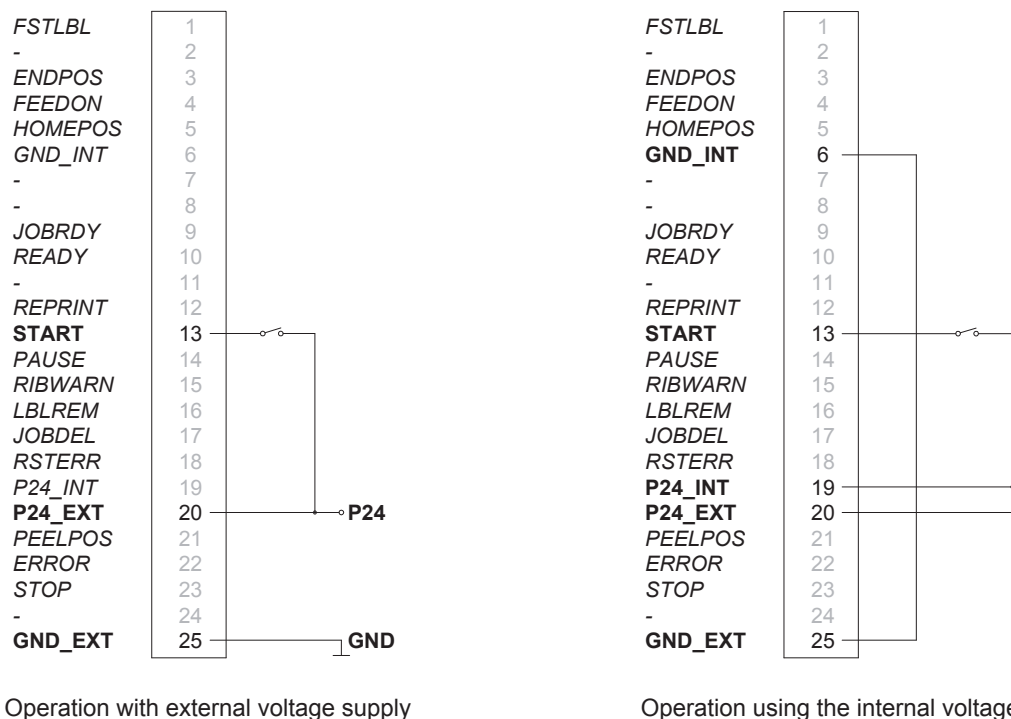

Figure 27 External circuit for peeling-off on demand with Present Sensor PS800 (Brady part #149072) or PS900 (Brady part #149075).
- External circuit as shown in Figure 27.